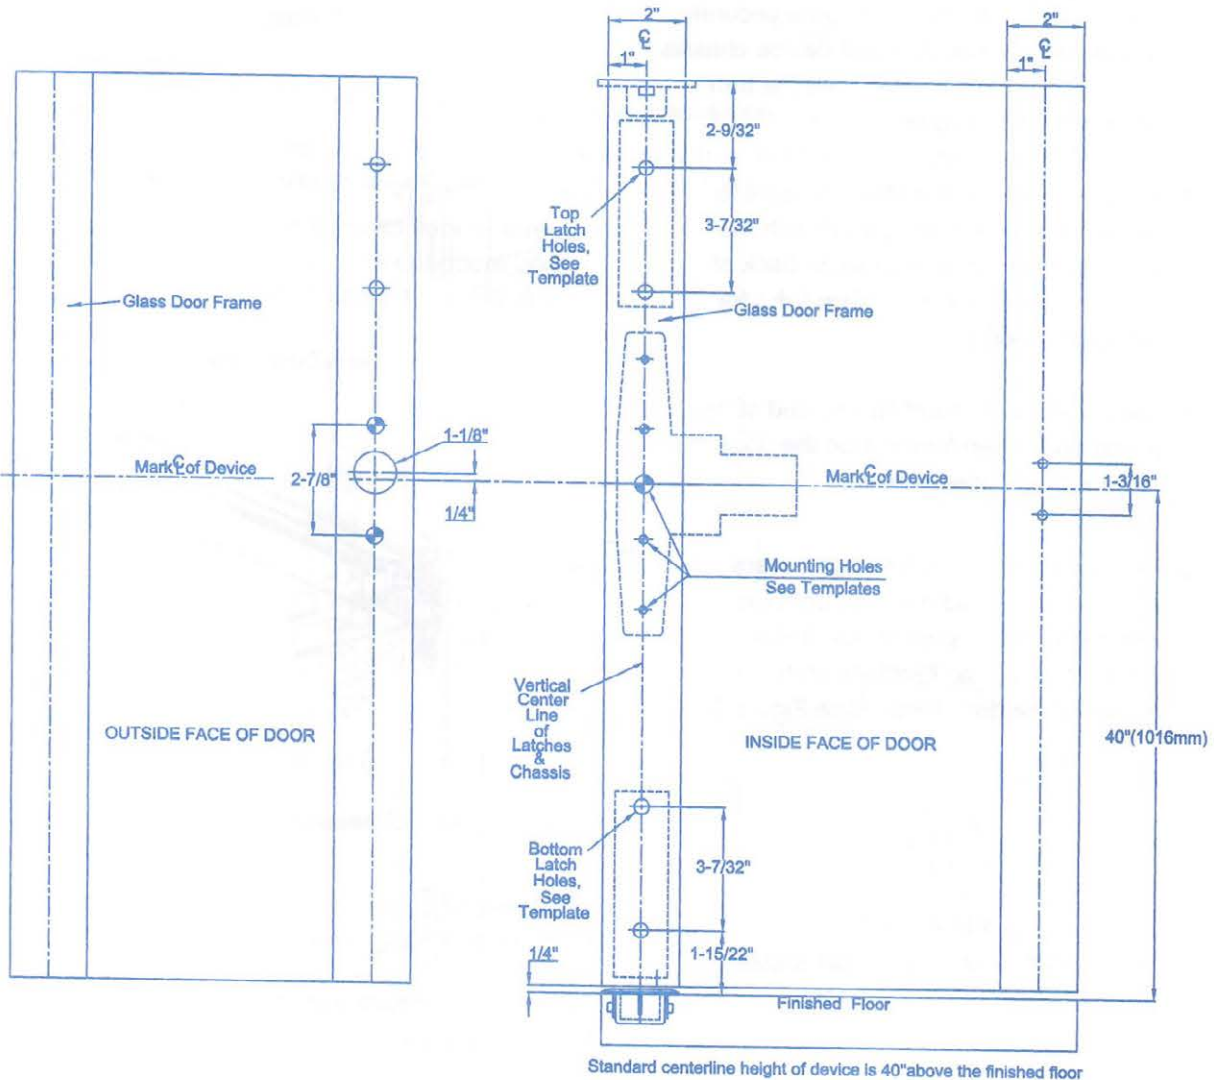

Figure 1
1. Mark position of holes on the door frame by templates. (See Fig. 1.)